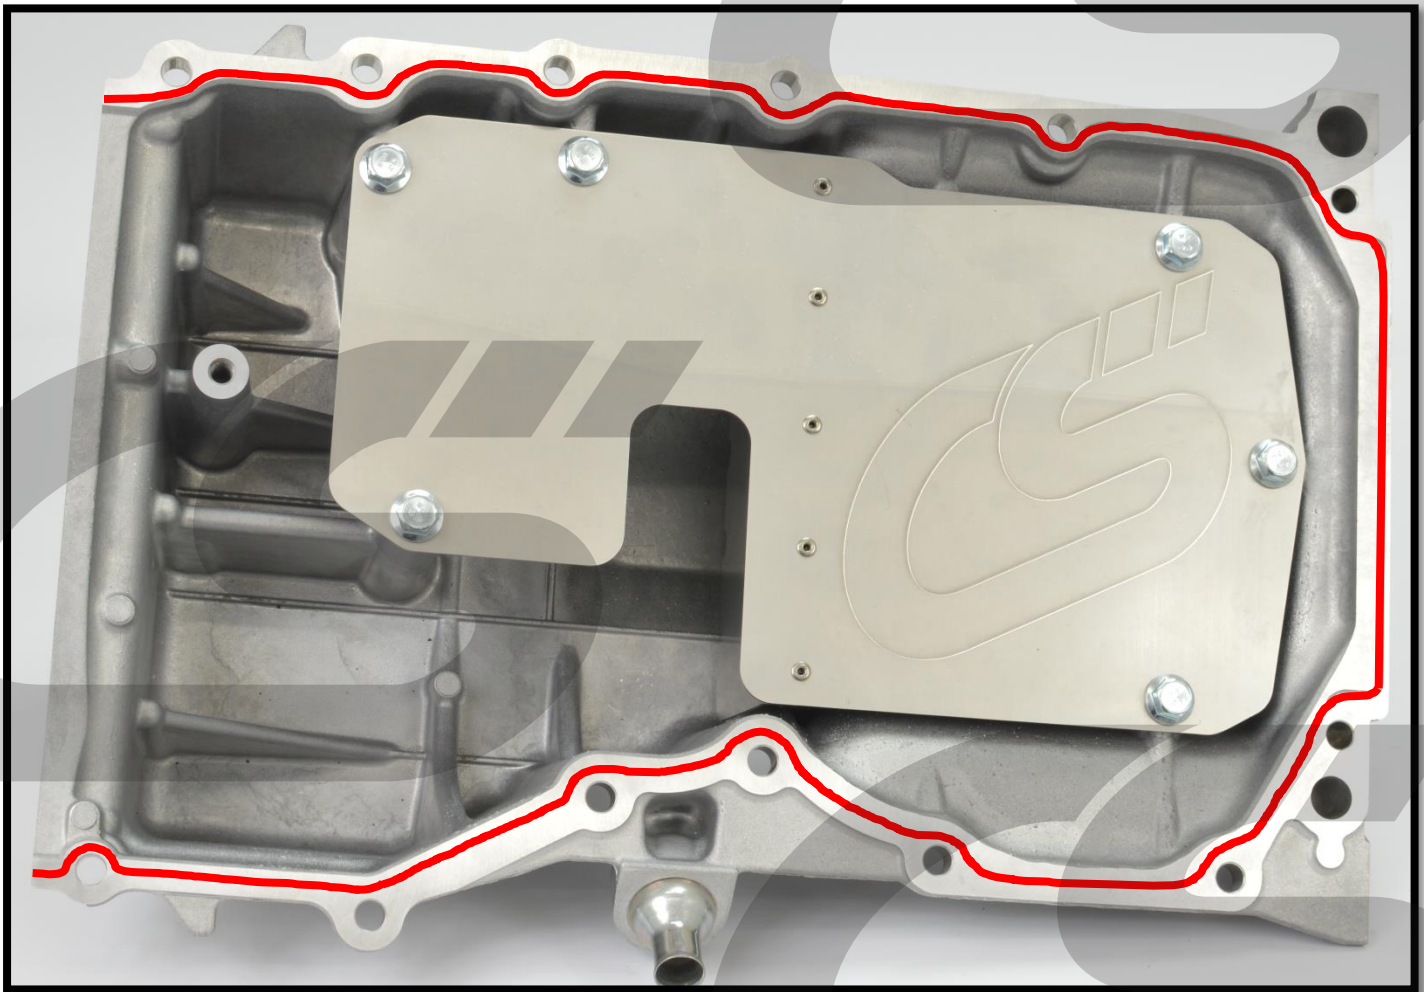

Figure 7a
- b) **Apply a bead of sealant around the oil pan.** The bead should be about **3mm wide** and follow the path marked in **red in Figure 7a**. We recommend using Ultra Gray Silicone gasket maker but other silicone gasket makers can be used as long as they are safe at high temperatures and with motor oil.